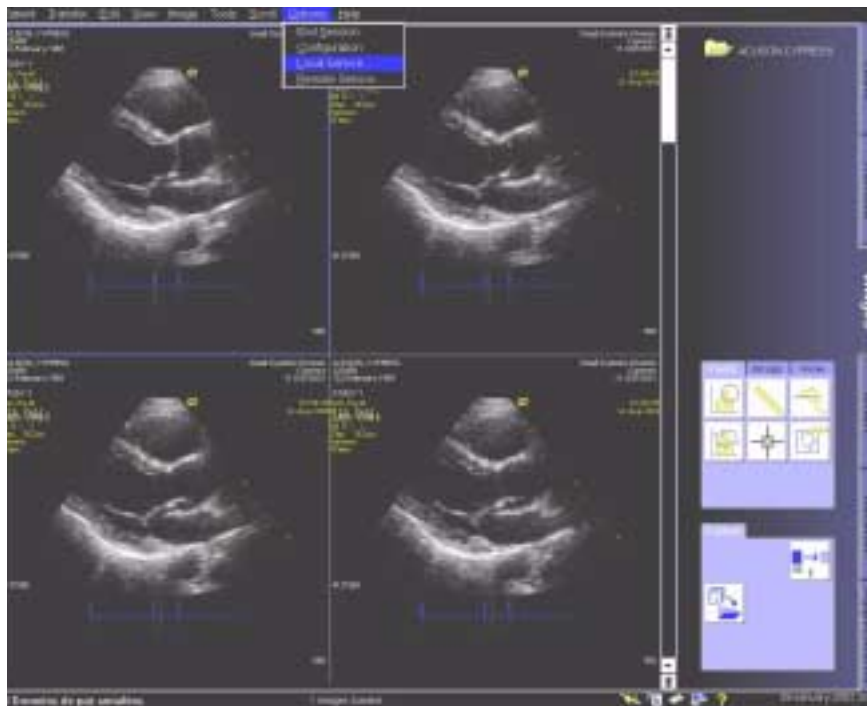

Figure 13-1 Infinity Explorer User Interface (UI)
1. Boot MDS to INFINITY EXPLORER User Interface (UI), and select non-Patient Monitoring tab.
2. Select *Options* at top of Infinity Explorer UI, and then select *Local Service* (see Figure 13-1).